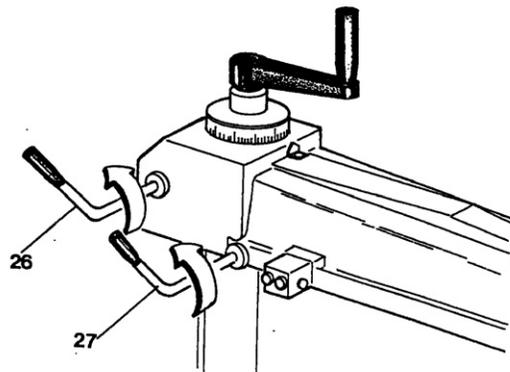
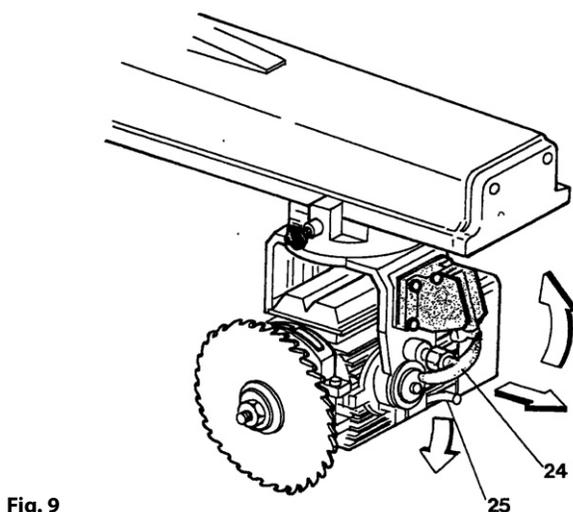

Fig. 10
Fig. 9
1) release the handle (25) (see fig. 9), pulling the lever (24) towards the operators so that the motor is released and rotate it in a vertical position until the lever (24) is inserted in its seat. To obtain radial rotation of the arm, disengage the lever (27) and loosen the locking lever (26) (see fig. 10).